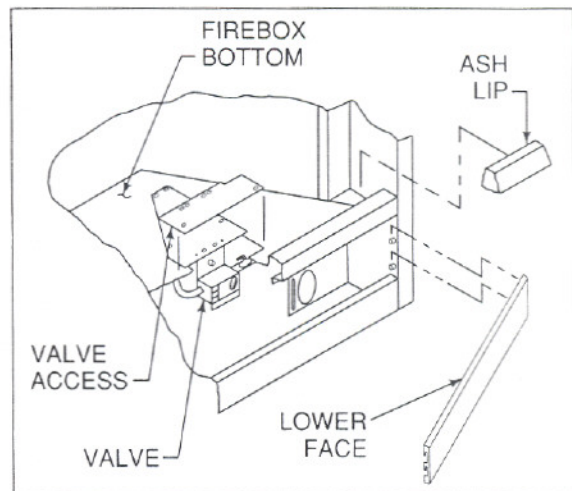
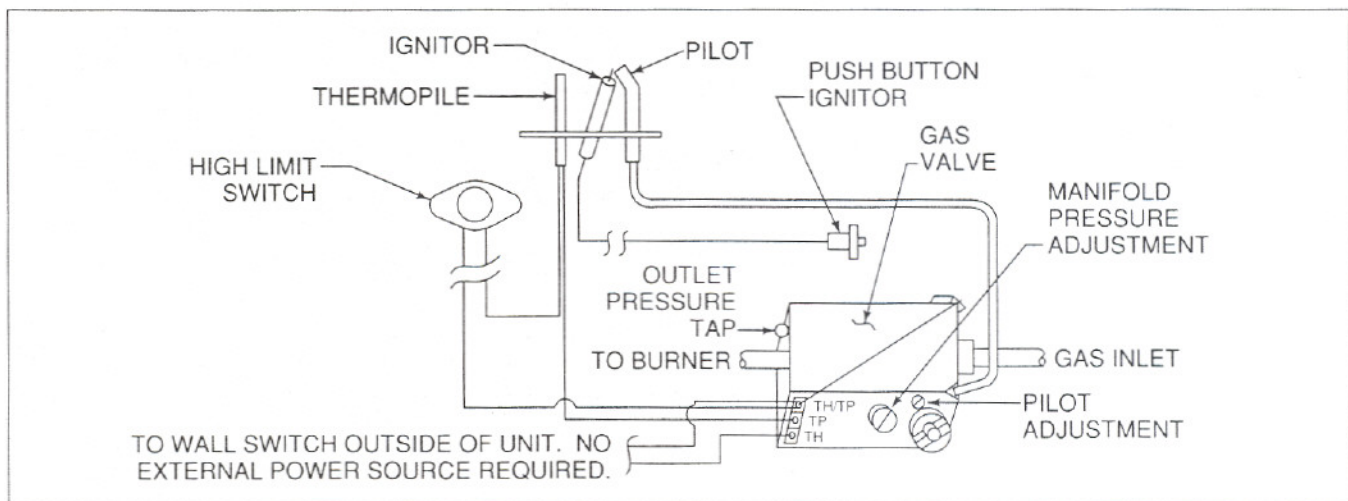

Figure 4
Figure 5
Connect the wires from outside of unit to the supplied wall switch as shown in Figure 5. The wall switch should be installed in a convenient location. **NOTE: The maximum wire length is 40 ft.** Run the $\frac{3}{8}$ " pipe approximately 3" into the unit. Connect the gas line to the appliance, using $\frac{3}{8}$ " 45° flare fitting. Check for gas leaks with a soap and water solution. See Figure 4 for location of gas valve.
1. Remove the pilot adjustment cap from the valve. See Figure 5.